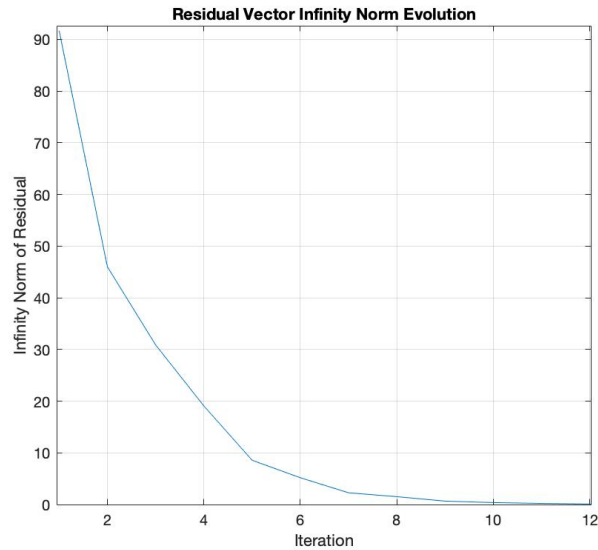
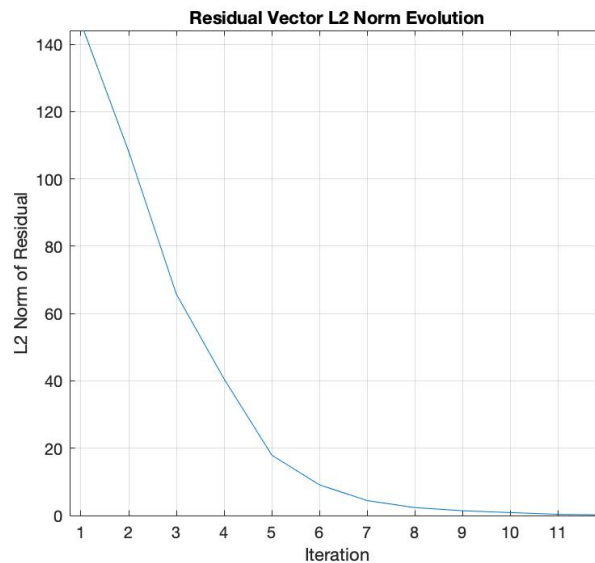

Figure 5 - The infinity norm of the residual vector versus the number of iterations of the conjugate gradient method.
Figure 6 - The L2 norm of the residual vector versus the number of iterations of the conjugate gradient method.
3. (c) Figure 5 shows the infinity norm of the residual vector versus the number of iterations for the conjugate gradient method. Figure 6 shows the L2 norm of the residual vector versus the number of iterations. Relevant code can be found under Appendix 2.3 under testq3.m (page 19).